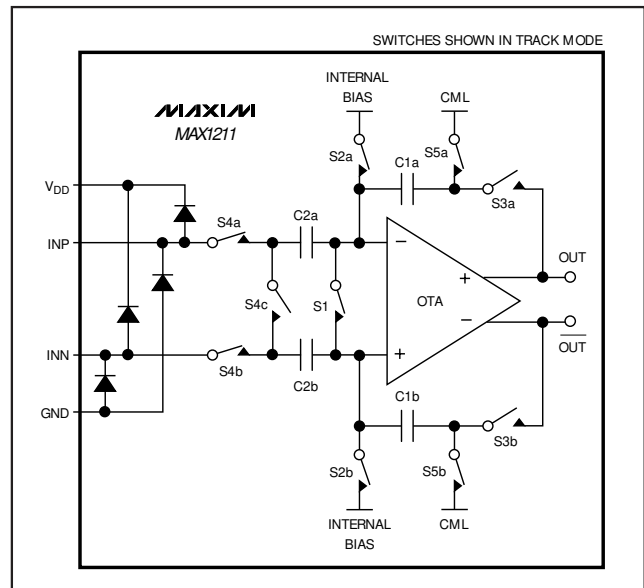

Figure 3. Internal T/H Circuit
Figure 3 displays a simplified functional diagram of the input T/H circuits. In track mode, switches S1, S2a, S2b, S4a, S4b, S5a, and S5b are closed. The fully differential circuits sample the input signals onto the two capacitors (C2a and C2b) through switches S4a and S4b. S2a and S2b set the common mode for the operational transconductance amplifier (OTA), and open simultaneously with S1, sampling the input waveform. Switches S4a, S4b, S5a, and S5b are then opened before switches S3a and S3b connect capacitors C1a and C1b to the output of the amplifier and switch S4c is closed. The resulting differential voltages are held on capacitors C2a and C2b. The amplifiers charge capacitors C1a and C1b to the same values originally held on C2a and C2b. These values are then presented to the first-stage quantizers and isolate the pipelines from the fast-changing inputs. The wide input-bandwidth T/H amplifier allows the MAX1211 to track and sample/hold analog inputs of high frequencies well beyond Nyquist. Analog input INP to INN can be driven either differentially or single ended. For differential inputs, balance the input impedance of INP and INN and set the common-mode voltage to midsupply ($V_{DD}/2$) for optimum performance.
- INP, INN analog inputs are disconnected from the internal input amplifier (Figure 3).